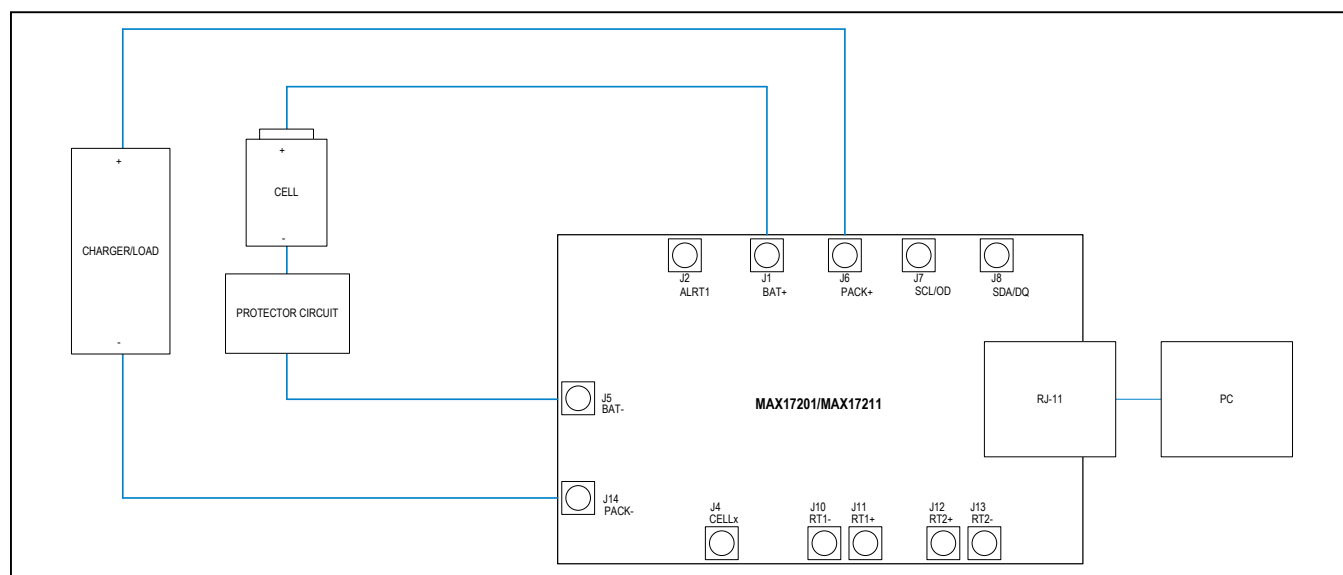

Figure 1. MAX17201/MAX17211 Board Connections
- 6) Make connections to the EV kit board based on cell pack configuration as shown in the following figures. The load or charger circuit can be connected at this time as well. Figure 1 shows the connections for a 1S cell pack. The cell connects between the BAT- and BAT+ pads and the charger/load connect between the PACK- and PACK+ pads.